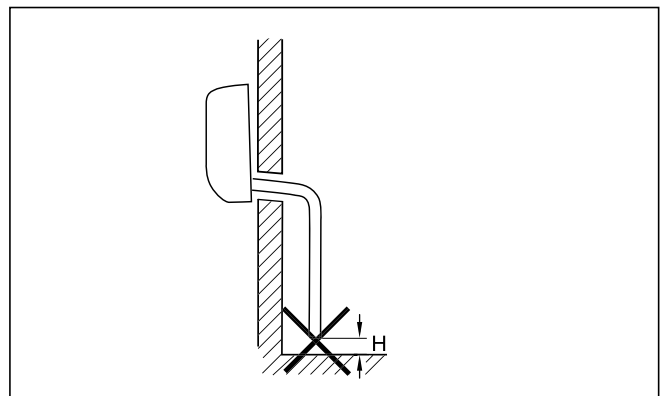

Fig. 9.5 Minimum distance from the floor.
- Install the condensed water pipe in such a way that the distance of its free end from the floor is at least 5 cm (see Figure 9.5).